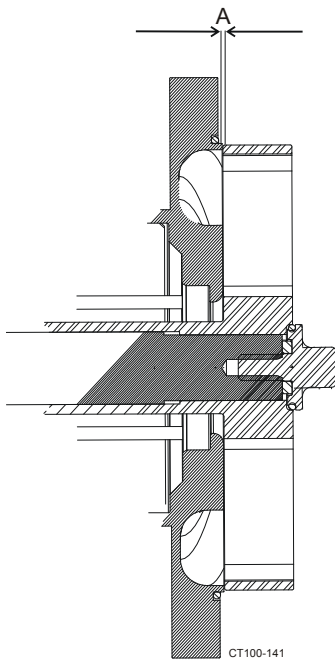
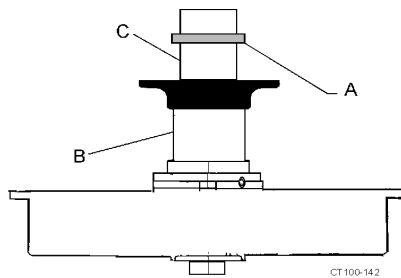

Figure 23 - Clearance Between Impeller and Backplate
Figure 24 - Shims Locations
1. To determine the number of shims needed to space the impeller from the backplate while parts are in metal to metal contact, hold the impeller and backplate in place on the motor shaft and check the shimming of the impeller location (Figure 23). If necessary, add or remove shims from the motor shaft so the space between the backplate and impeller face is between 0.015-0.020 in (0.381-0.508 mm). See Figure 23, item A. When the proper clearance is achieved, clamp the backplate, assemble the impeller retainer bolt, and check the clearance again.
**NOTE:** Any axial movement of the shaft should not be added to the impeller clearance set in step 1, above. See Figure 23, item A. If needed, change the clearance by adding or removing shims. Shims (Figure 24, item A) are added on the drive shaft (Figure 24, item C) behind the impeller shaft (Figure 24, item B).